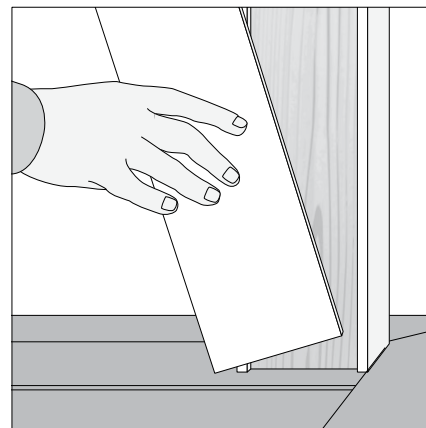

Fig. 3a
- Place the KLEERWrap Post Wrap around the post. Starting at the bottom of the KLEERWrap Post Wrap “snap” the loose side back into place (**Fig. 3a**).